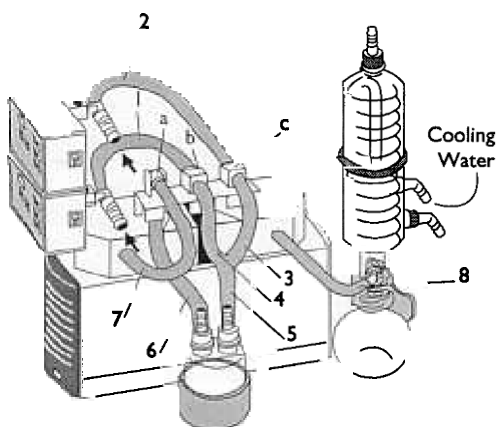

Figure 12: Tubing Connection SCC (twin head pumps)
- ★ Tubing of twin head pumps: see figure 12. When connecting single head pumps, study the Information Sheet that accompanies the accessories. Choose tube material which is resistant to the media used.
- ★ Tubing of two headed pumps *see figure 12*. When connecting single head pumps, study the Information Sheet that accompanies the accessories. Choose tube material which is resistant to the media being used.